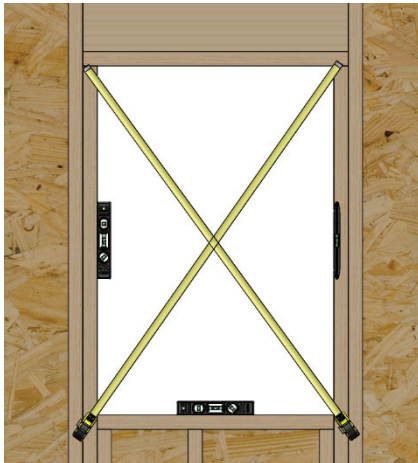

Fig. 1
- Verify the rough opening is flat, plumb, level, and square. (Fig. 1)